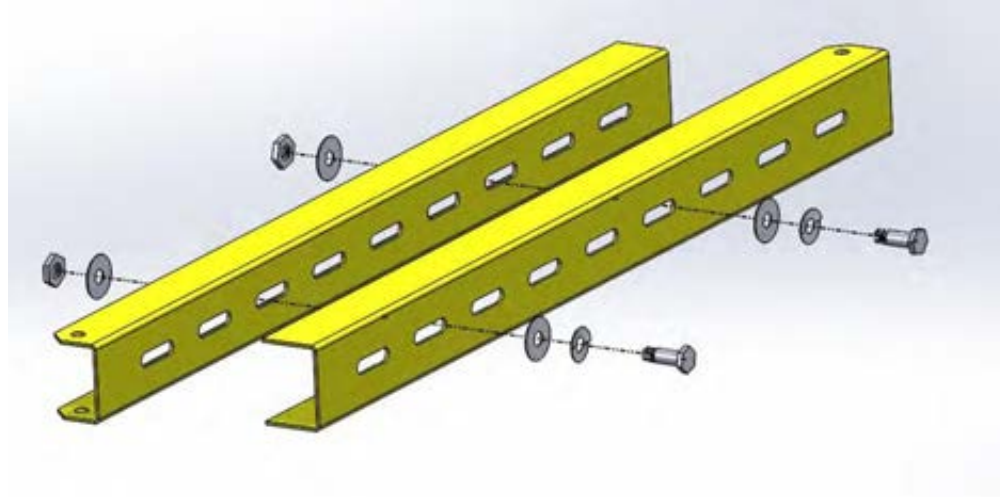

Figure 11. Support rail assembly
10. To assemble the support rails, fit the smaller inner channel inside the larger outer channel so that the mounting holes on the flanges are opposite one another. Slide the channels to obtain the correct length determined by the panel tilt angle. Secure the support rails together at the desired length using a 1/4-20 x 3/4" hex bolt, lock washer, and flat washer on one side, and a flat washer and hex nut on the other side (2 per rail assembly) as shown in **Figure 11**.